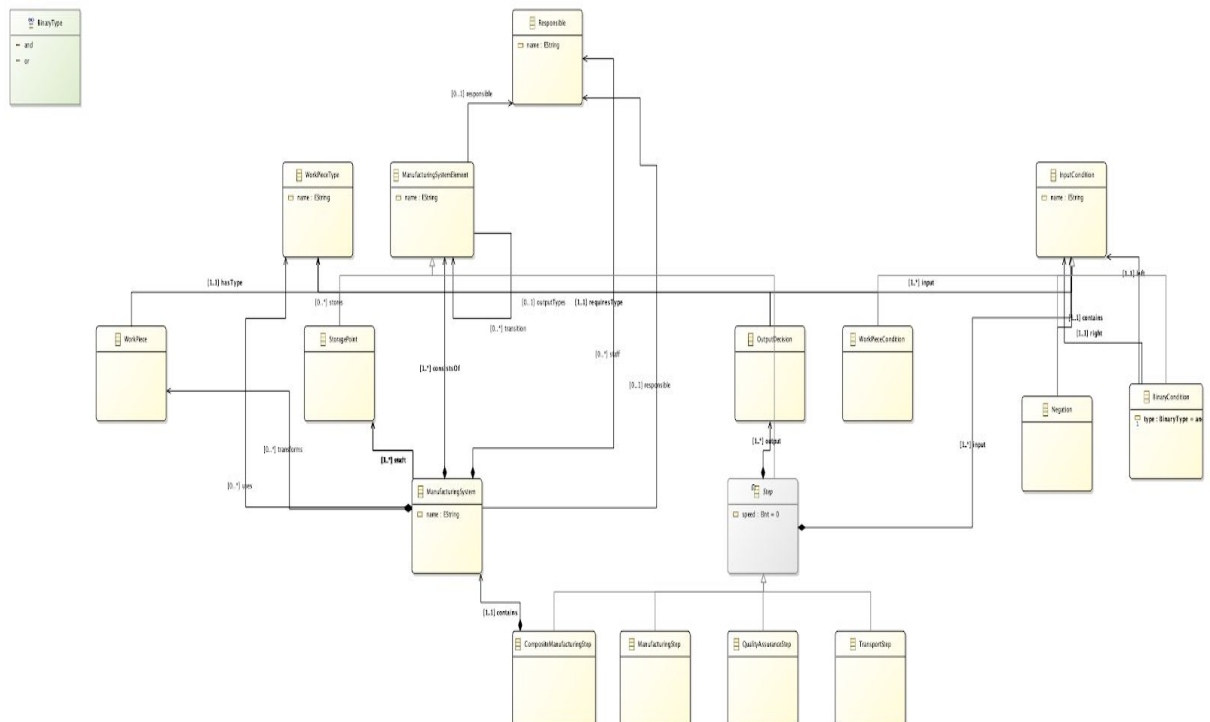

Figure 1: Class Diagram
- 4.6. Transitions shall only connect ManufacturingSystemElements within the same ManufacturingSystem. E.g. in the example in Figure 1, it would not be allowed to connect RawMaterialStorage directly to the Step Cutting, as Cutting is inside another ManufacturingSystem (CuttingComposite).